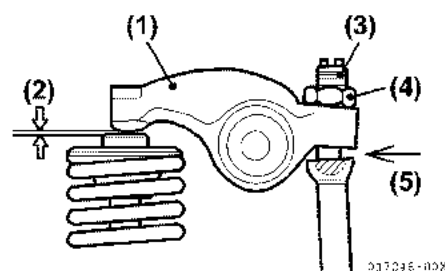
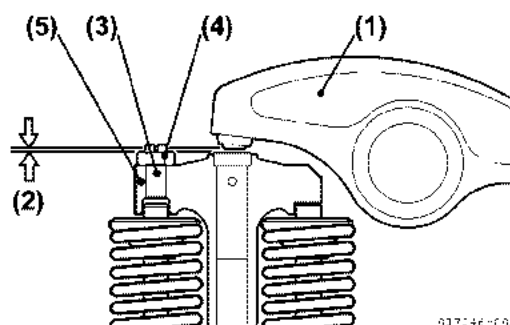

Figure 5-152
Figure 5-153
- (d) Coat the rocker arm and valve spring with lubricating oil and install the rocker arm cover (Figure 5-152) and (Figure 5-153).